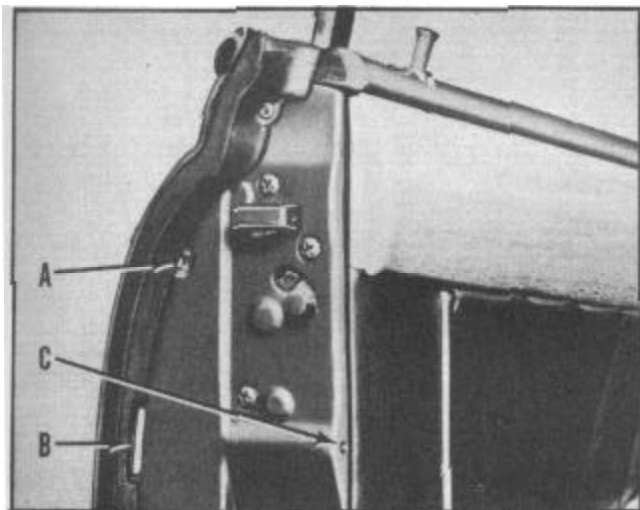

FIGURE 24
Insert a screwdriver under the flanged edge of the lock retainer (B), Figure 24, and pry outward. This will release the lock assembly for removal from the door. (Leave lock retainer in the door.) Pull out lock assembly.